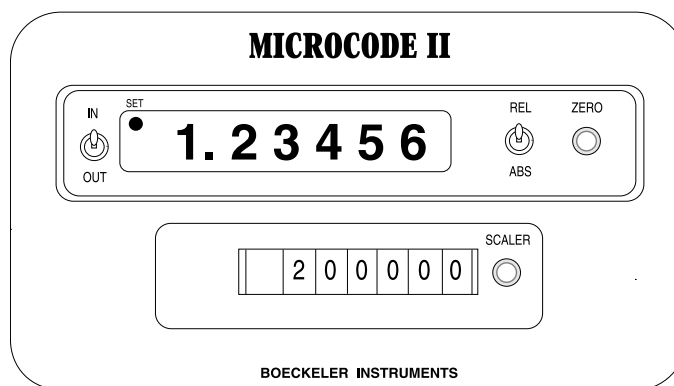

Figure 1.8
3. **Press the SCALER button.** The scaler is now applied, which means that the unscaled counts have been multiplied by the scale factor. The SET indicator light will be on signifying that the displayed value is in scaled counts. Refer to **Figure 1.8**.